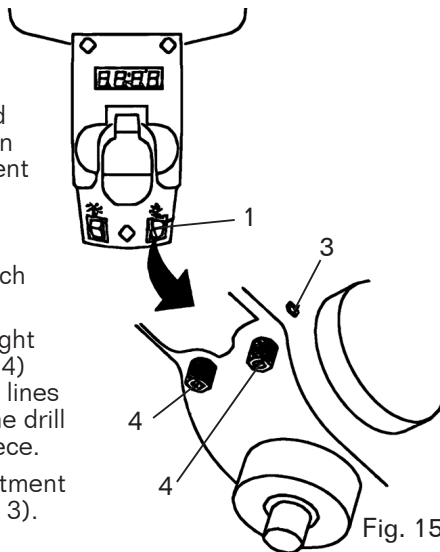

Fig. 15
3. Place a combination square (Fig. 15 - 5) (not included) on the table as shown, placing the long straight edge of the combination square against the drill bit. Make sure the drill bit is parallel / aligned exactly to the straight edge of the square.
## ADJUSTING THE LASER (FIG. 15 & 16)
2. Turn the laser switch (Fig. 15 - 1) to the ON position.
- a. Using the included 3 mm hex key, turn the laser adjustment set screws (Fig. 15 - 3) counterclockwise. There is one of each side of the head.
- b. Rotate the laser light housing (Fig. 15 - 4) until the two laser lines intersect where the drill meets the workpiece.
5. Re-tighten the adjustment set screws (Fig. 15 - 3).